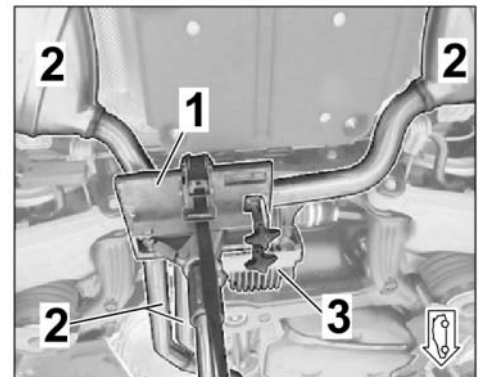

Figure 8
- 1.3.4 Position **engine and gearbox jack** under exhaust system (in transfer case area). Secure exhaust system against falling with restraining straps. ⇒ *Figure 8*